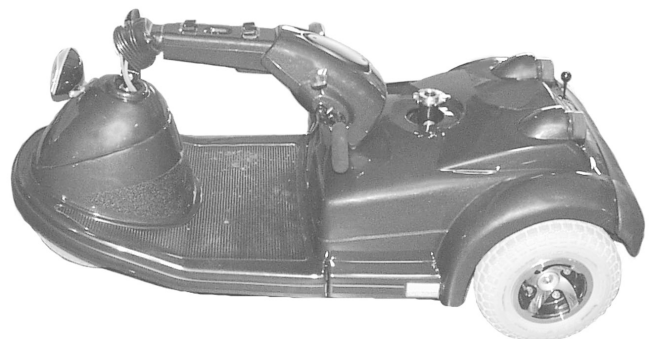

Figure 17. Lowering The Tiller
3. Grasp the handle grip on the tiller and carefully depress both tiller release buttons, then slowly lower the tiller. See figure 17.